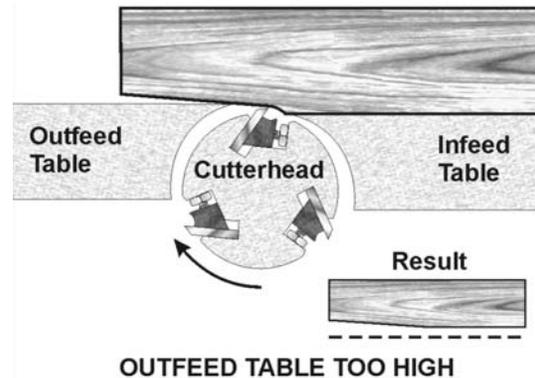

Figure 31
*Outfeed table too high* – If the outfeed table is too high, a curved finished surface results (Figure 31).